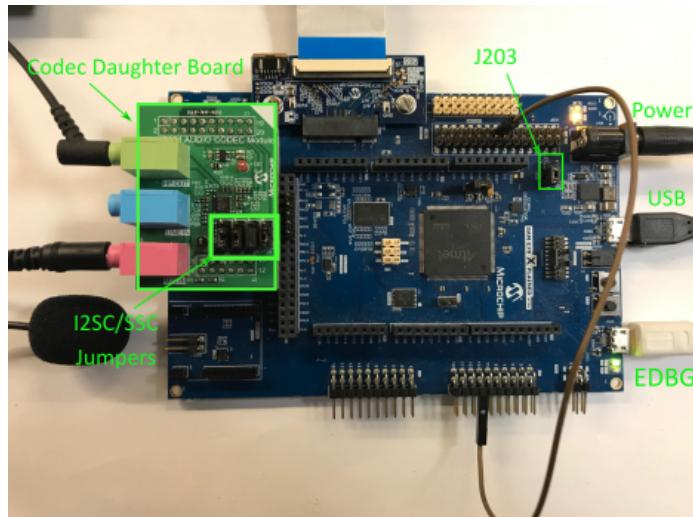

Figure 1. WM8904 Audio Codec Daughter Board on SAM E70 Xplained Ultra board. Headphone Out Jack is green. Microphone In Jack is pink.
1. Attach the WM8904 Daughter Board to the X32 connector. Connect headphones (monitor headphones) to the HP OUT jack of the WM8904 Audio Codec Daughter Board (see Figure 1) and a microphone to the pink MIC IN jack (Refer to Figure 1).
2. Connect power to the board and connect the USB cable (EDBG) used for programming the device (Refer to Figure 1). Compile the application and program the target device using the EDBG. Run the device. The system then will be in a waiting for USB to be connected (amber LED1 off).
3. Connect to the USB Host via the micro-mini connector (Refer to Figure 1) located above the push-button switches on the right side of the board using a standard USB cable. The LED1 should turn to a solid amber color as the host enumerates and then initiates the audio stream.